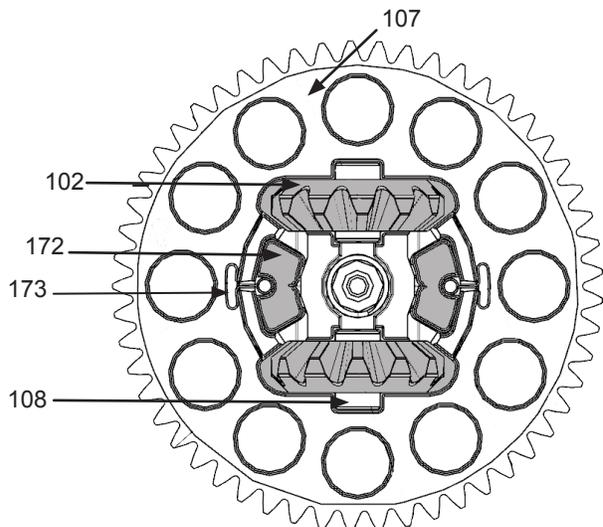

Figure 16, Differential Lock Bull Gear
Refer to Figures 16 and 17.
1. Remove self tapping bolt (181) using a 10-32 torque head wrench.
2. Remove flat washer (182), extension spring (183) and actuating arm (178).
3. Remove oil seal (172)
4. Remove the side housing (1). Reference disassembly step #2 on page 23.
5. Remove cupped washer (175) and rotating cam (177).
6. Remove the actuating cam (179).
7. Remove the bull gear (107). See figure 16.
8. Remove both miter gears (102) and both differential pins 108).
9. Remove both return springs (173) and both differential dogs (172).